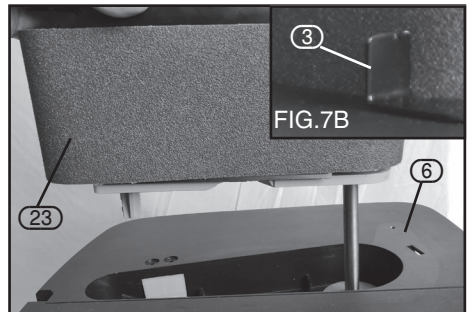

FIG.7
Fit the sanding belt unit (23) into the recess located on the fixed table (6) and secure into position with the spindle knob (33). FIG.7.